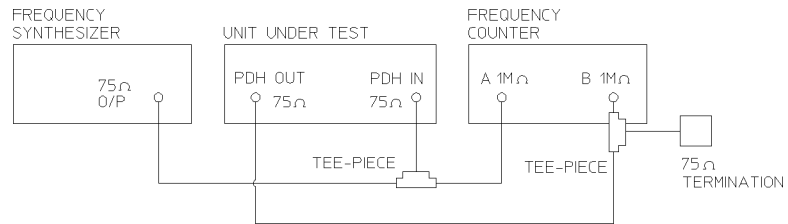

Figure 3-3
- 2 Connect up the equipment as shown in Figure 3-3.